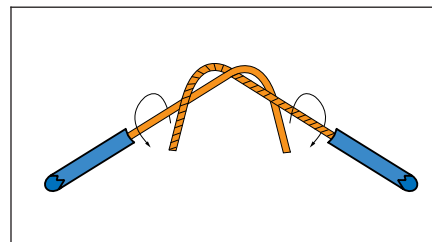
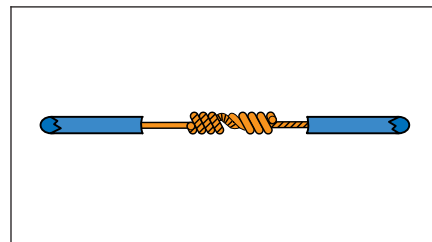

Figure 3 Wrap in Opposite Directions
Figure 4 Solder Connection
6. Firmly secure the remaining wire and begin wrap motion in the opposite direction. (See Figure 3.) Upon completion of one wrap on each wire, complete the wrapping process to obtain the three wire wrap minimum requirement. (See Figure 4.)
7. Terminate any remaining wire length using a flush cut pattern. (This eliminates any wire protrusion that could extend beyond the outer circumference of the wrap and cause damage to the insulation/tubing that could result in a short.) (See Figure 4.)